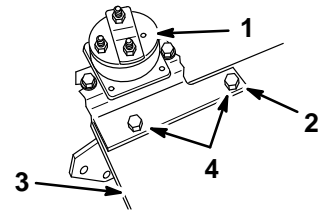

Figure 9
- Secure the solenoid mounting plate to the battery mounting plate with two thread forming screws (Fig. 9).
- Secure the solenoid to the mounting plate with two capscrews and locknuts as shown in Figure 9.